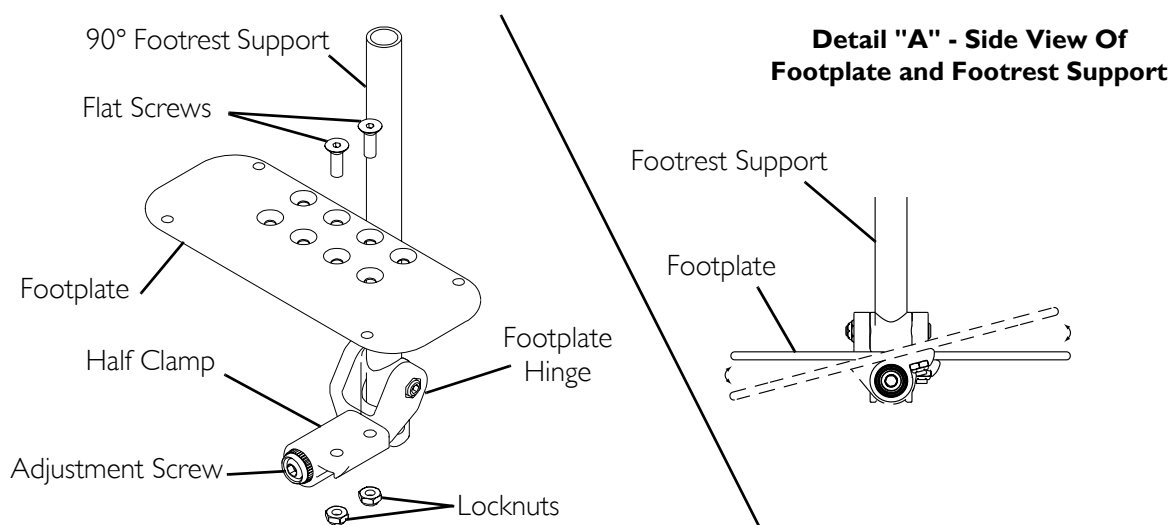

FIGURE 4.7 Adjusting Adjustable Angle Flip-Up Footplates
NOTE: For this procedure, refer to FIGURE 4.7.
2. Position the footplate to the necessary angle to accommodate the user (Detail "A" of FIGURE 4.7).